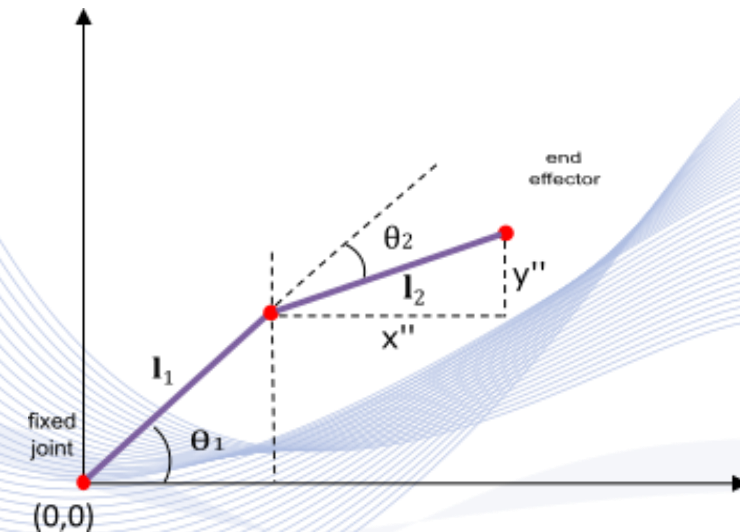

Fig 2: second rotation
- The end effector now is located at (x, y) position, which can be described like before (Fig 2):